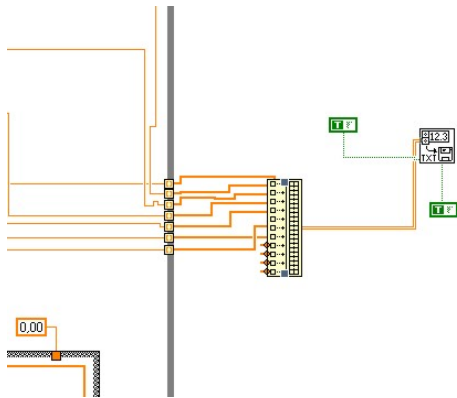

Figure 4.3 Create a free node.
2. By clicking the yellow box and holding you can increase the length of it, allowing more data stream to be added to it. The box in figure 4.3 has been increased to allow 4 more data streams.